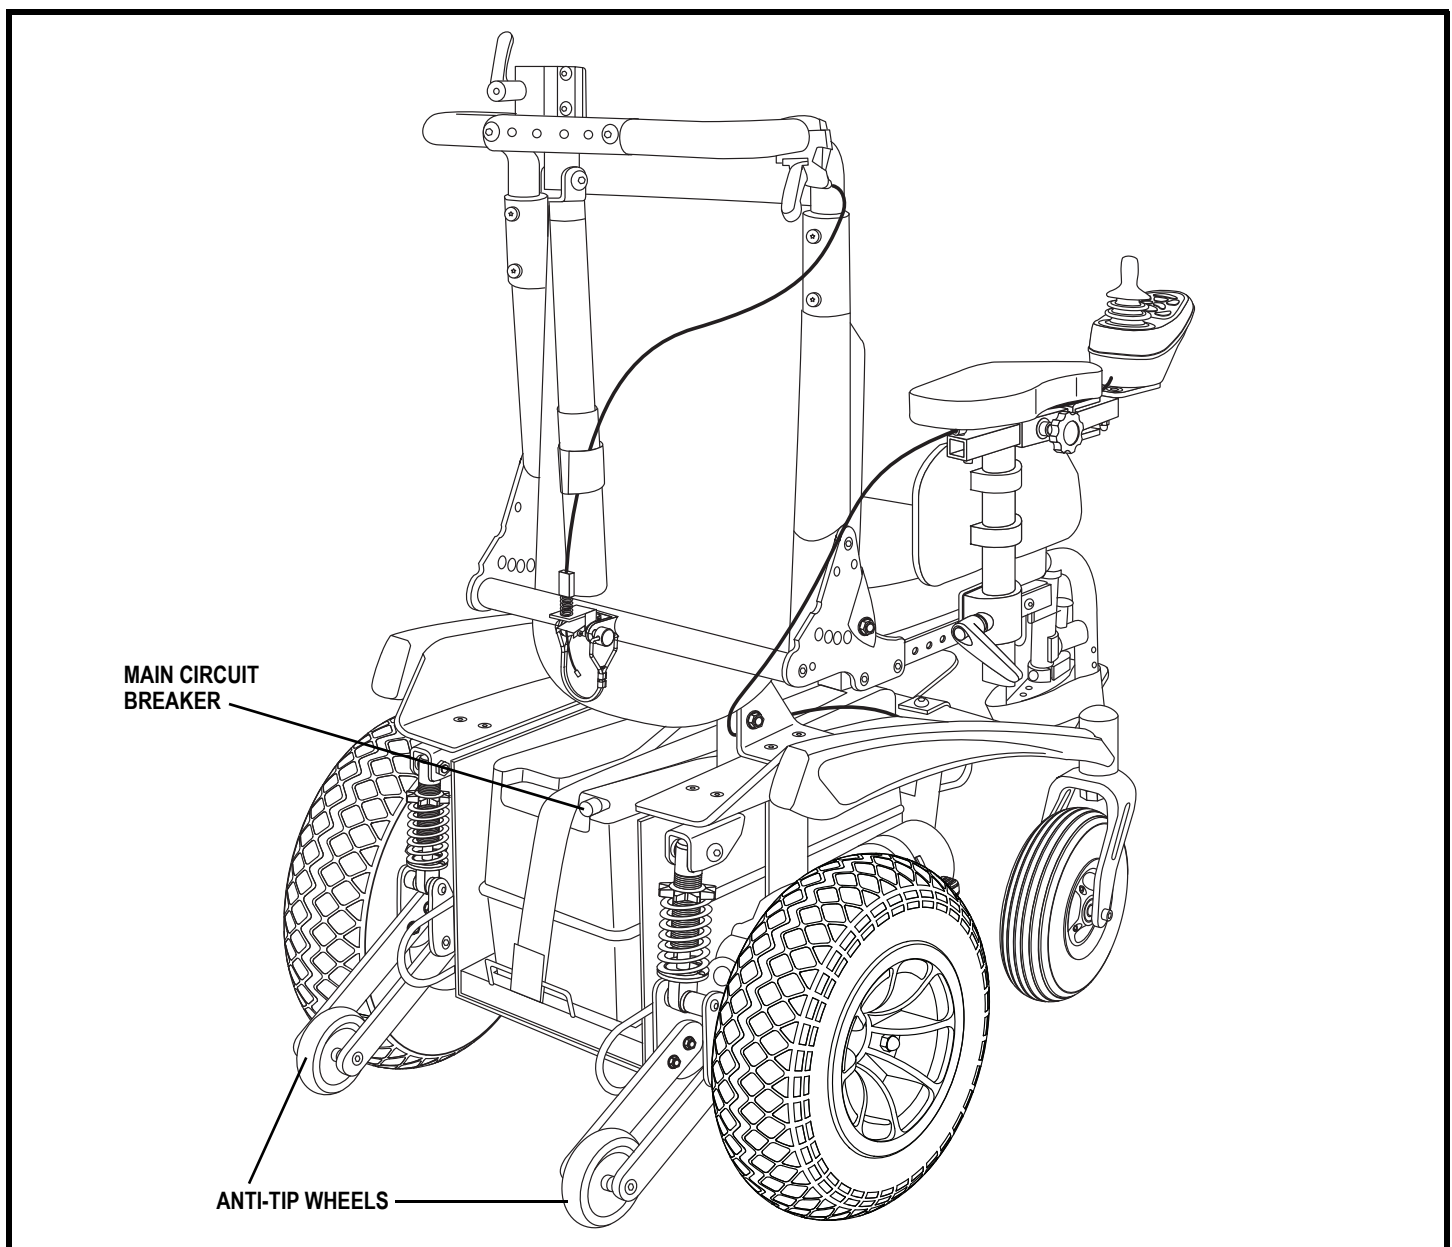

Figure 6. The Sparky Power Base
The electrical components are located on the front of the power base. See figure 6.
**Main Circuit Breaker:** The main circuit breaker is a safety feature built into your power chair. When the batteries and the motors are heavily strained (e.g., from excessive loads), the main circuit breaker trips to prevent damage to the motors and the electronics. If the circuit trips, allow your power chair to “rest” for approximately one minute. Next, push in the circuit breaker button, turn on the controller and continue normal operation. If the main circuit breaker continues to trip repeatedly, contact your Quantum Rehab Dealer. The main circuit breaker is located on the rear of your power chair. See figure 6.